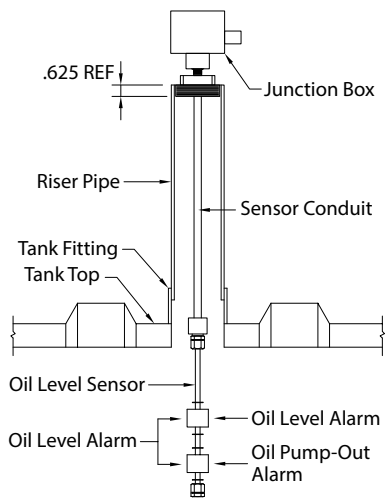

Figure 5-1
- 5.2.2. Double-float are the alarm sensors (see Figure 5-1)